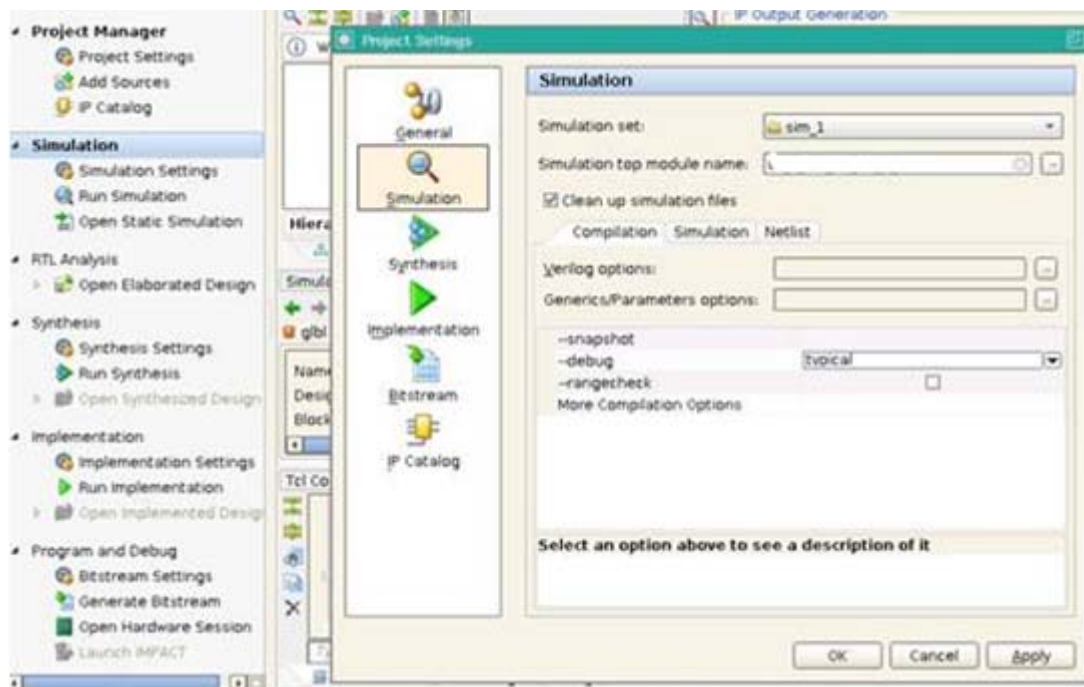

Figure 7-3: Simulation GUI
3. You can also choose Modelsim for simulation by going to **Project Settings** and selecting Modelsim as the Target Simulator (Figure 7-3).